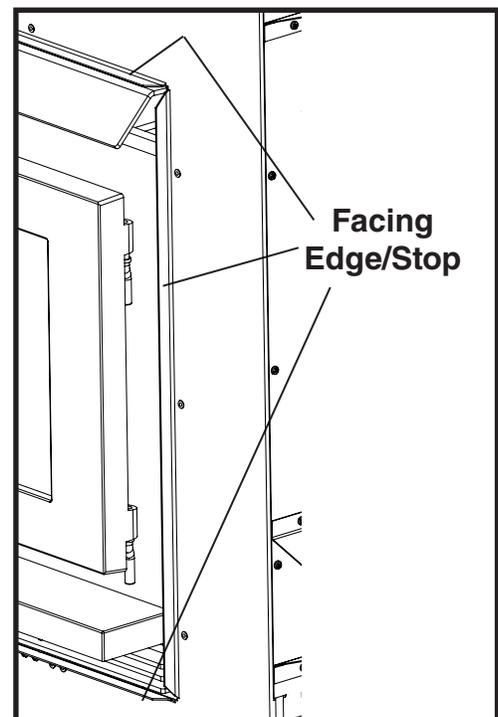

Figure 30: FP30 Facing Edge stop.
**DO NOT EXTEND OR PLACE ANY CEMENT BOARD OR FINISHING MATERIALS BEYOND/INSIDE THIS EDGE. (Figure 30). Failure to comply will result in; overheating of the fireplace and blowers, and will not be covered under Warranty.**